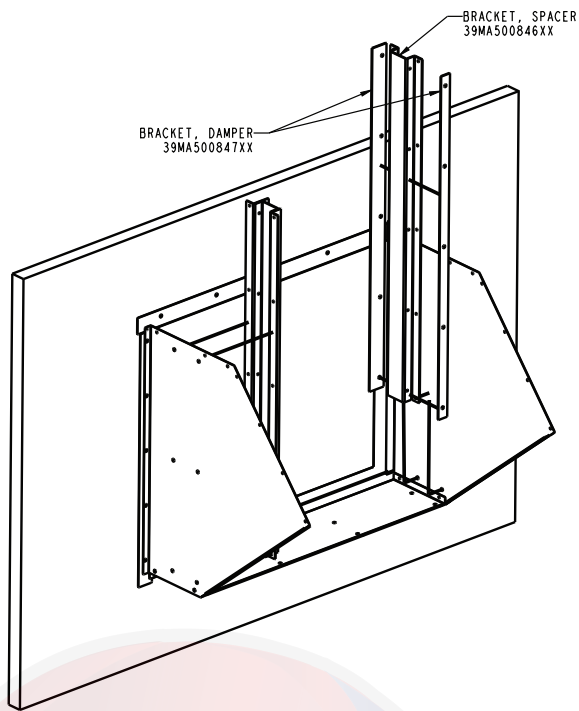

Fig. 75 — Installing the Bracket, Space, and Damper (Sizes 61, 85, 96, and 110)
- For size 61 units (AF361) and sizes 85, 96 and 110 (AF40 and FC40) install bracket spacer and damper brackets using the 1/4 in.-14 x 5/8 in. long sheet metal screws (without neoprene washer.) See Fig. 75.